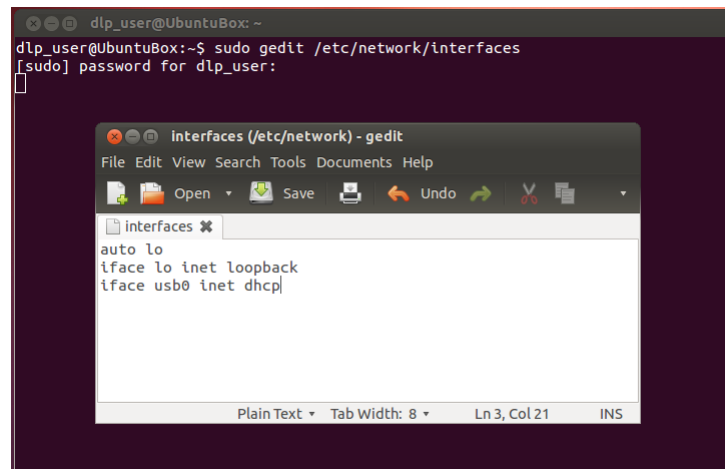

Figure 2-11. Ubuntu® Command Terminal and "interfaces" File
2. Open the "/etc/network/interfaces" file in superuser mode. See Figure 2-11.
3. Add "iface usb0 inet dhcp" to the file. See Figure 2-11.